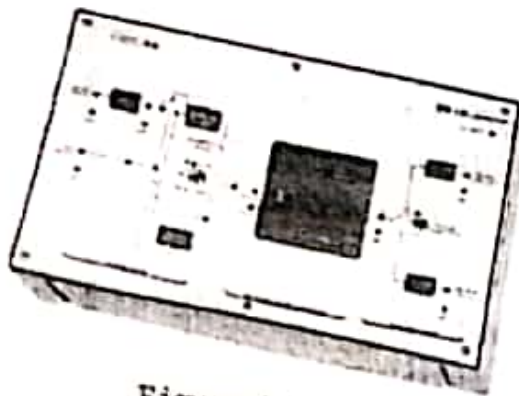

Figure 2-12. Module and Measuring device for experiment
- (1) Prepare module and measuring device like as figure 2-12 provide power to all devices.